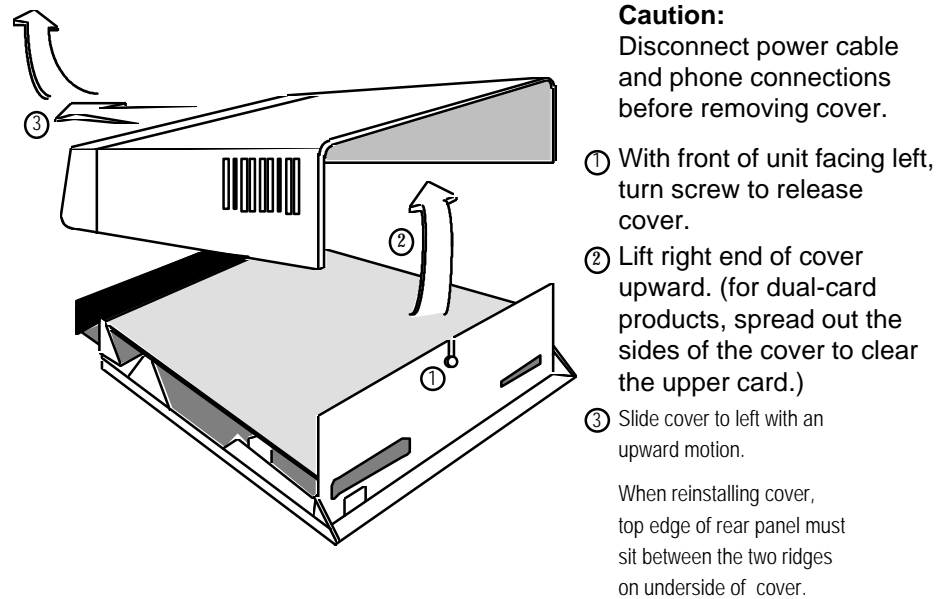

Figure 2-7 DataComm Enclosure Cover Removal Procedure
3. Remove the cover, as shown in *Figure 2-7*.